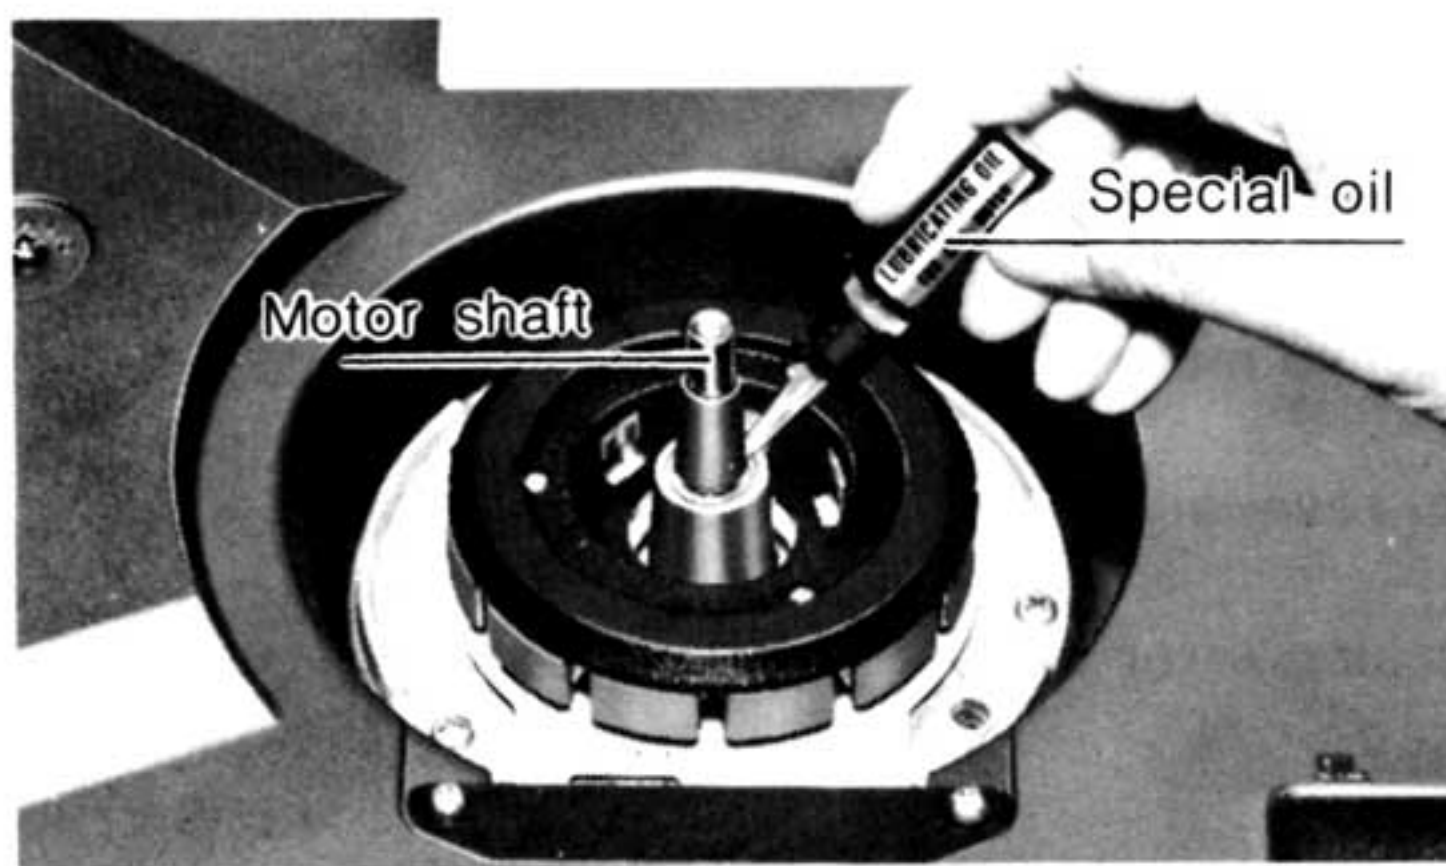

Figure 4
② APPLY TWO OR THREE DROPS OF OIL TO THE MOTOR SHAFT USING THE FURNISHED OIL CONTAINER. (See Fig.4)